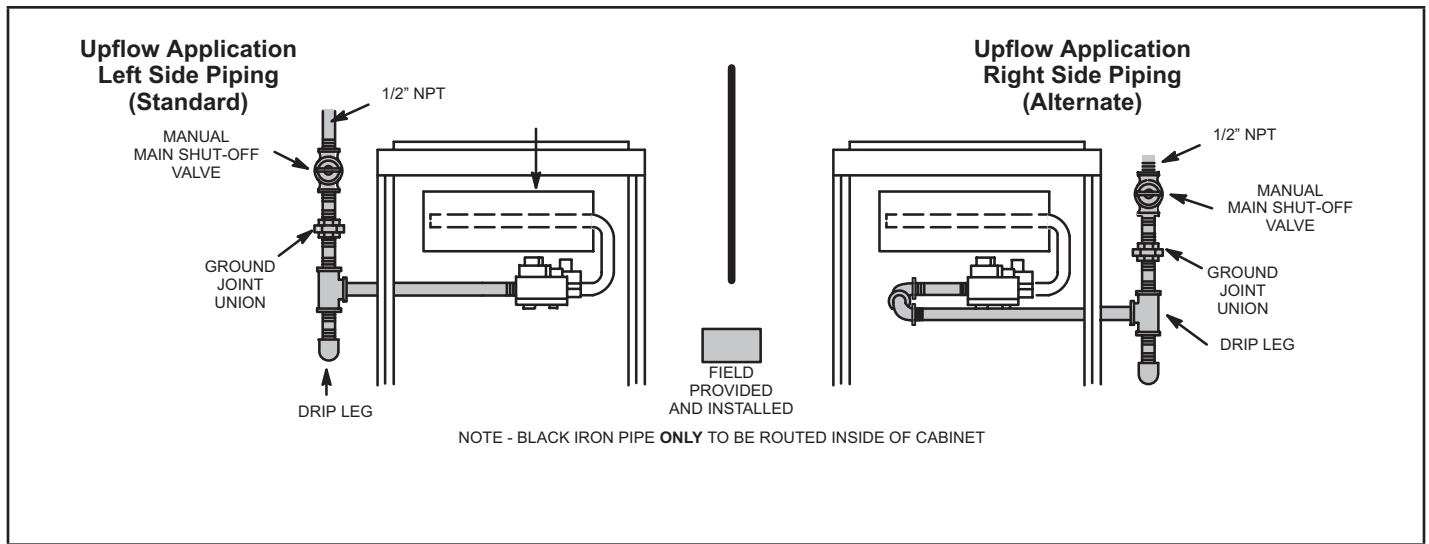
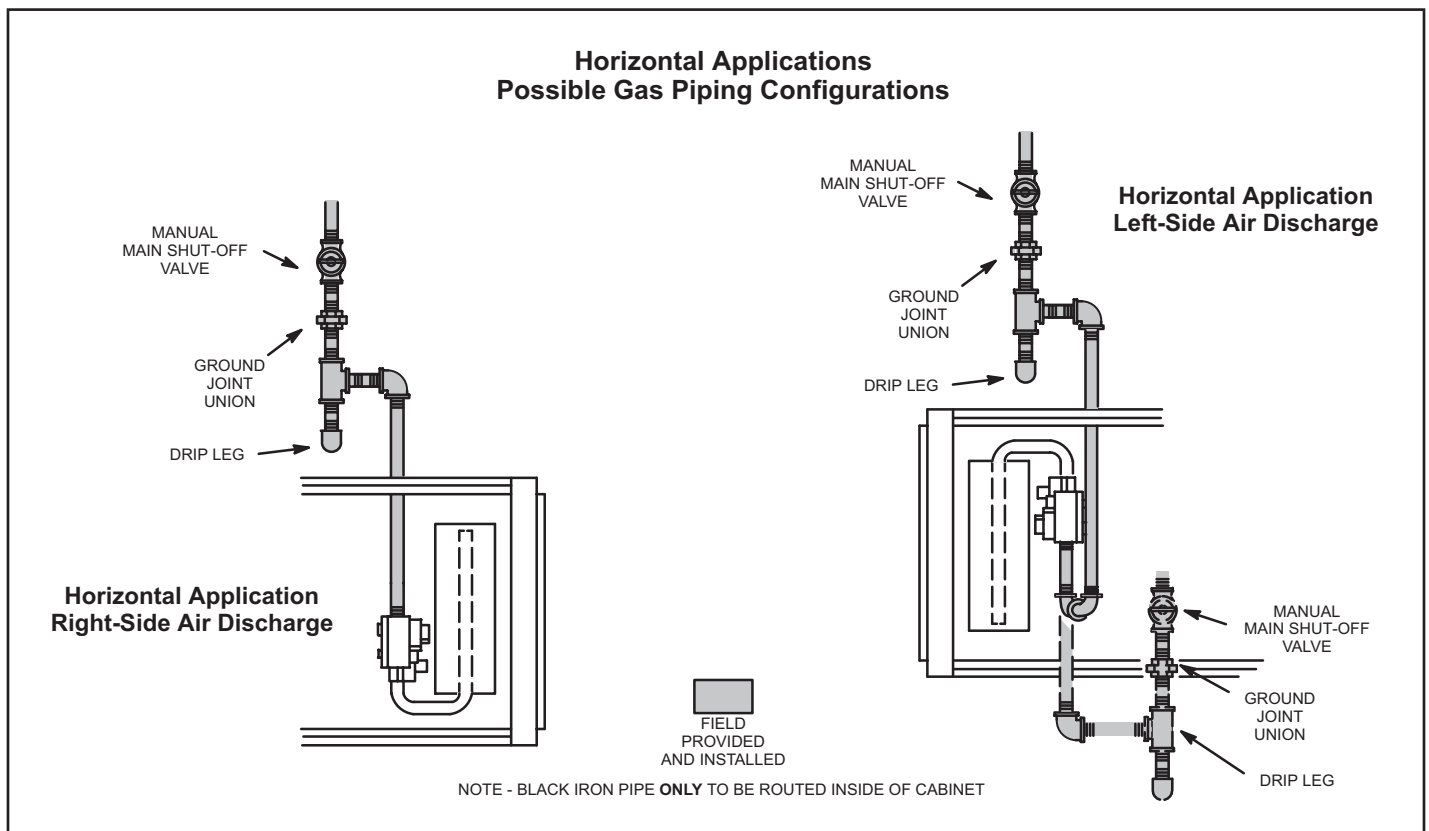

FIGURE 56
FIGURE 57
- 1 - Gas piping may be routed into the unit through either the left- or right-hand side. Supply piping enters into the gas valve from the side of the valve as shown in FIGURE 56. Connect the gas supply piping into the gas valve. The maximum torque is 800 in lbs and minimum torque is 350 in lbs when attaching the gas piping to the gas valve.
- 3 - Gas piping must not run in or through air ducts, clothes chutes, chimneys or gas vents, dumb waiters or elevator shafts. Center gas line through piping hole. Gas line should not touch side of unit. See FIGURE 56 and FIGURE 57.